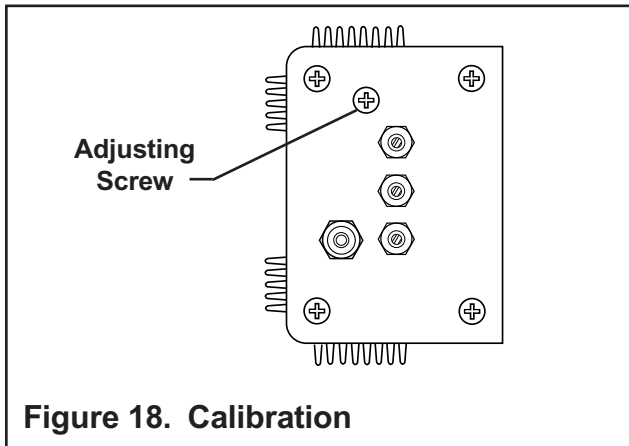

Figure 18. Calibration
5. Measure the amount of foam in the container and compare that to the calculated amount (main flow rate X injection rate X minutes flowed [100 gpm X 0.005 (0.5%) injection rate X 5 minutes = 2.5 gal. output]). If the amounts are significantly different, remove the small black screw and o-ring on the motor driver box with a 3/32 allen wrench (see Figure 18). With a small slotted screwdriver, adjust the screw inside the driver module. If the measured flow is above what is expected, turn the screw clockwise. If the measured flow is below what is expected, turn the screw counterclockwise.